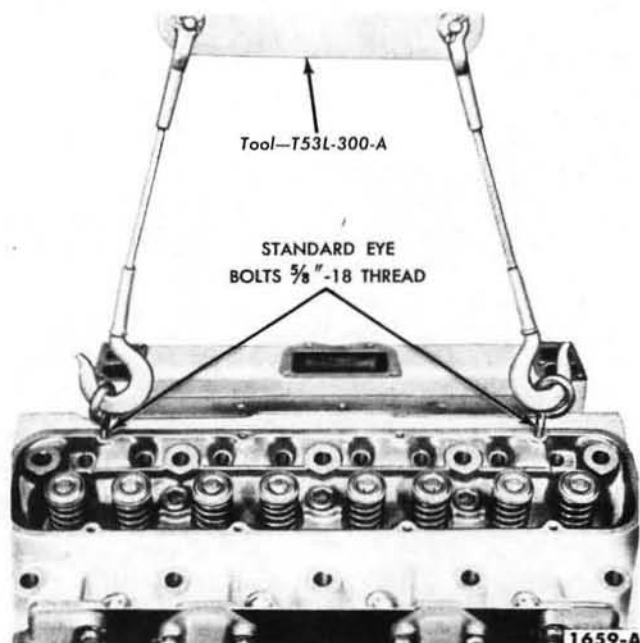

FIG. 20—Cylinder Head Removal or Installation
3. Install standard eye bolts with  $\frac{5}{8}$ -18 threads in the cylinder head and attach the engine lifting sling (Fig. 20). Remove the remaining cylinder head bolts. Raise the cylinder head and carefully remove it from the engine.
3. Position the cylinder head on the engine (Fig. 20), then install, but do not tighten, the five outside bolts.